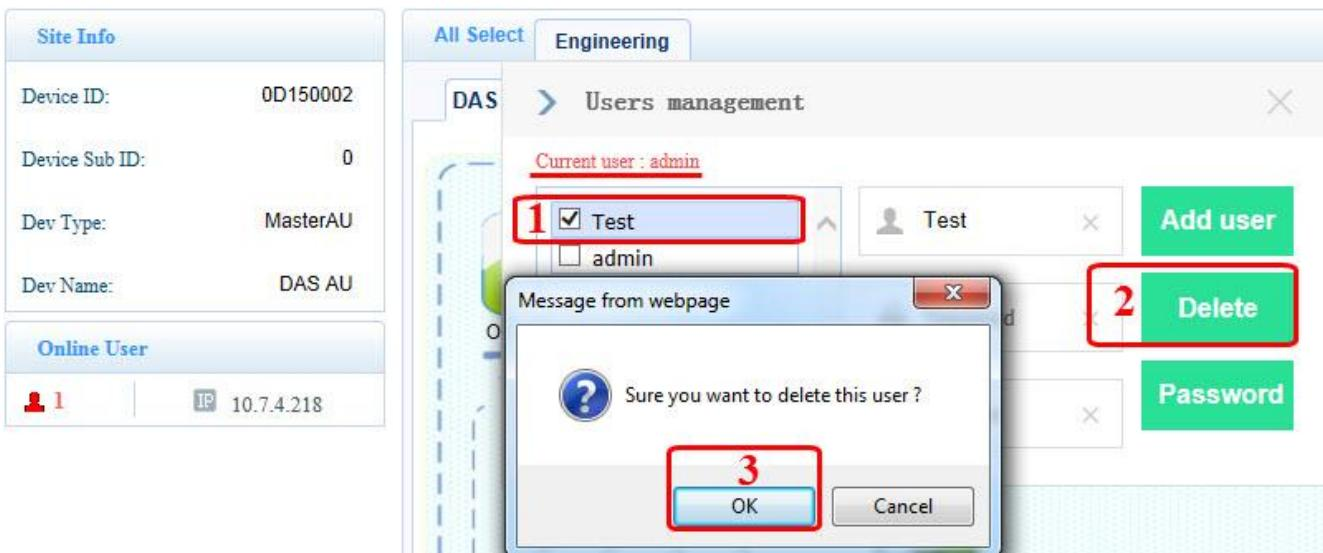

Figure 2-16 Delete User
- Choose the user need to delete. See **1** in the Figure 2-16.
- Click **Delete** button. See **2** in the Figure 2-16.
- Click **OK** button to confirm. See **3** in the Figure 2-16